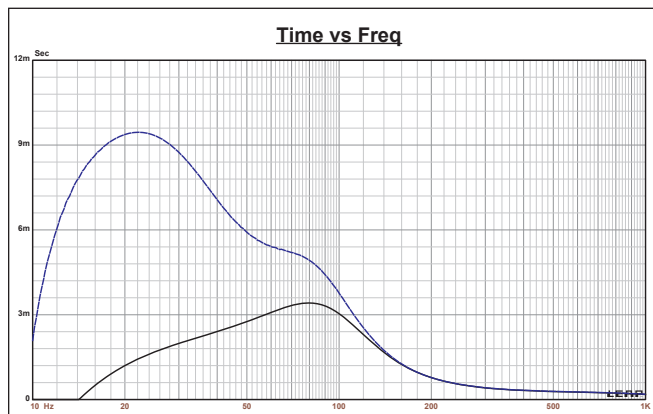

Figure 3: Group delay curves for the 2.83V curves shown in Figure 2
**Figure 2** displays the results for the Ellipticor 38WE8582 in the vented and sealed enclosures at 2.83V and at a voltage level sufficiently high enough to increase cone excursion to Xmax+15% (11.8mm for the 38WE). This produced a F3 frequency of 78Hz (F6=63Hz) with a Qtc=0.68 for the sealed enclosure and -3dB=70Hz (F6=58Hz) for the vented box. Increasing the voltage input to the simulations until the maximum linear cone excursion was reached resulted in 127dB at 150V for the sealed enclosure simulation and 128dB for the same 150V input level for the vented enclosure. **Figure 3** shows the 2.83V group delay curves.